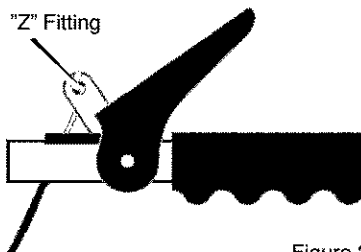

Figure 29
**To check for correct adjustment, unhook "Z" fitting at clutch lever (see Figure 29).**